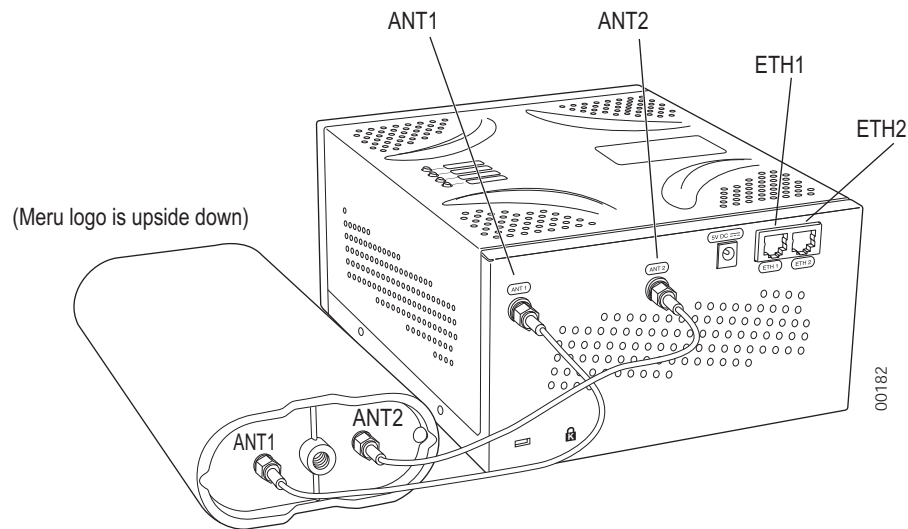
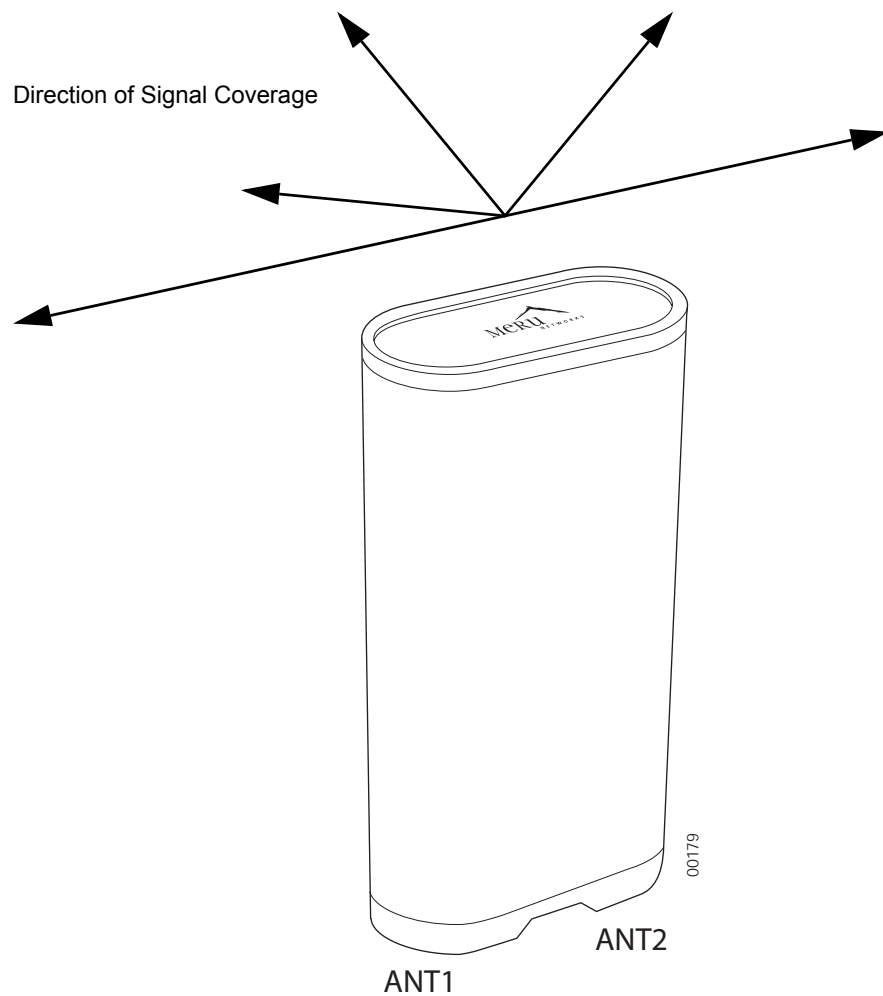

Figure 43: RS4000 with Antenna Attached
Figure 50: RS4000 180° Directional Antenna
9. On the RS4000, attach the two antenna cables to the SMA antenna connectors labeled **ANT1** and **ANT2** on the top panel of the RS4000 (see Figure 43) by turning the cable ends clockwise until tight.
8. On the RS4000, attach the two antenna cables to the SMA antenna connectors labeled **ANT1** and **ANT2** on the top panel of the RS4000 (see Figure 43) by turning the cable ends clockwise until tight.
11. On the RS4000, attach the two antenna cables to the SMA antenna connectors labeled **ANT1** and **ANT2** on the top panel of the RS4000 (see Figure 43) by turning the cable ends clockwise until tight.
The RS4000 antenna uses two RF cables (3-foot cables are supplied) to connect to the SMA connectors on the top panel of the RS4000 (see Figure 43). The RF cables should be attached to the RS4000 as a result of the procedures described in one of the previous installation procedures.
2. Connect the RF antenna wires from the RS4000 to the SMA connectors on the top of the antenna, using Figure 43 or Figure 50 for orientation.
4. Attach the two antenna cables to the SMA antenna connectors labeled **ANT1** and **ANT2** on the top panel of the RS4000 (see **Figure 43**) by turning the cable ends clockwise until tight.
9. Attach the antenna cables to the antenna (see **Figure 50**).